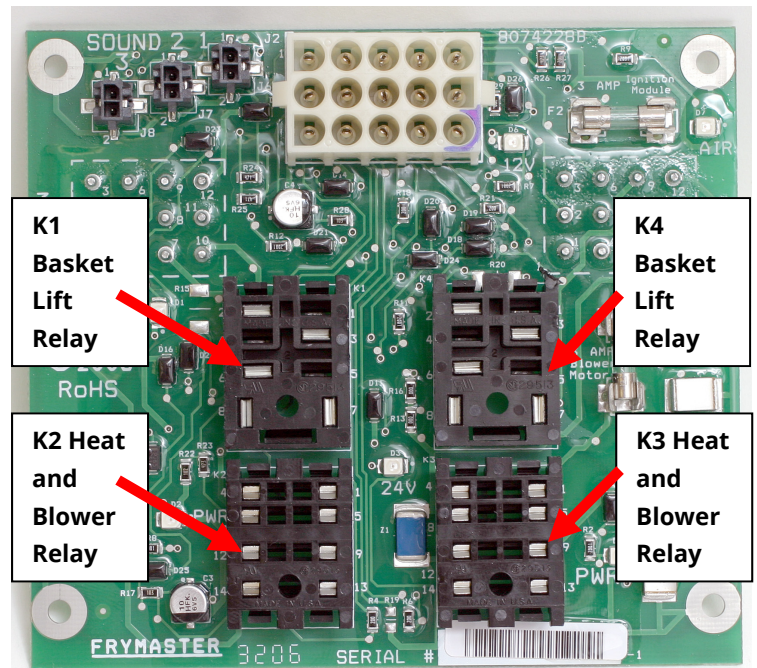

Figure 10A
15. Remove the heat relay(s) from the old interface board and attach to the two bottom connectors (K2 and K3) on the new interface board (see Figure 10A).
16. Attach the new basketlift relays included in the kit to the two top connectors (K1 and K4) of the new interface board (see Figure 10A).